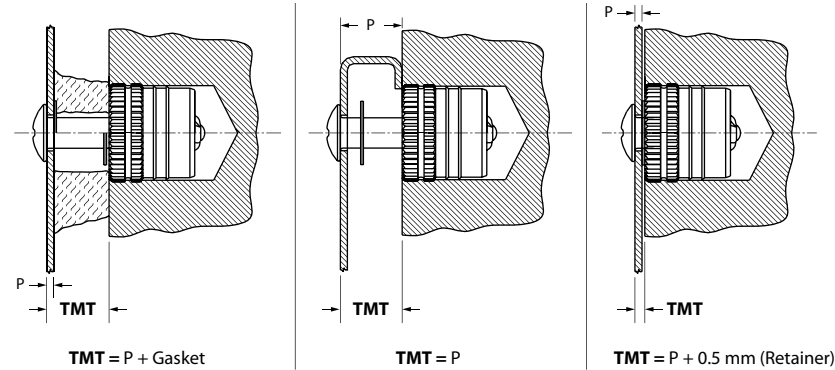

Figure 1: Total Material Thickness (TMT)
- 1. Calculate the Total Material Thickness (TMT) using Figure 1 below.